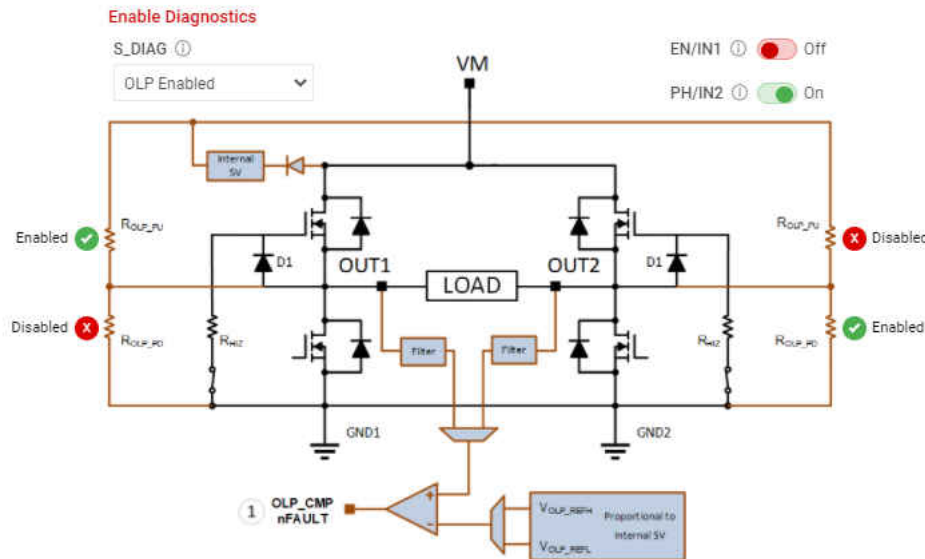

Figure 4-8. Passive Diagnostics Pop-Up Window
- **PASSIVE/ACTIVE DIAGNOSTICS** The SPI variant features both passive and active diagnostics. The passive diagnostics also known as Off-line Passive (OLP), may only be used when **ENABLE DRIVER** is disabled (Off-state). It will show up in a separate pop-up window as can be seen in Figure 4-8. A representative table from the device datasheet is displayed in this window for guidance to perform the passive diagnostics. Each row of the table covers a specific combination of user input selection, the corresponding OLP setup and load status inference from the OLP_CMP comparator output on the nFAULT pin. See device datasheet for more details. The required S_DIAG selection can be made using the GUI for SPI devices. The required DIAG jumper setting must be done when **WAKE** is Asleep for HW devices prior to enabling passive diagnostics. The nSLEEP and DRVOFF inputs are logic 1 while observing passive diagnostics. Inputs for EN/IN1 and PH/IN2 are selected using the switches in the GUI. It may take a few seconds for the pull up, pull down